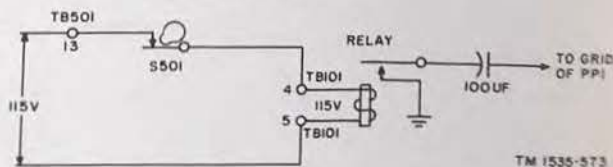

Figure 167. Determining width of antenna synchro alinement cam.
- (1) Place the ohmmeter between terminals 8 and 13 of TB501.
- (2) Rotate the antenna horn counterclockwise until it reaches the  $168^\circ$  point. The orange mark on the side of the transmitter synchro coupling disk should match the orange mark on the main drive gear mounting base within  $1/32$  inch.
- (3) At the  $168^\circ \pm 1/2^\circ$  point, the ohmmeter should just indicate an open circuit. If it does not, measure the width of the antenna synchro alinement cam by following the instructions given in (4) through (7) below.
- (4) Hook up a 115-volt, ac relay and a 100- $\mu\text{f}$  capacitor in the circuit indicated in figure 167.
- (5) Turn on antenna motor switch S503. The number of degrees the cam is open is indicated by the dark portion on the PPI. The cam width should be between  $30^\circ$  and  $36^\circ$ .
- (6) If it is not, loosen the screws that hold the switch mounting plate to synchro alinement cam switch S501 and move the plate backward or forward as necessary.
- (7) Tighten the screws.